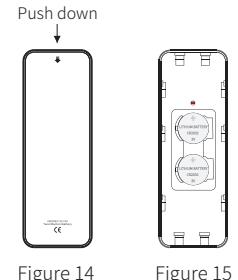

Figure 14
- Turn the remote over and slide the battery cover open (Figure 14).